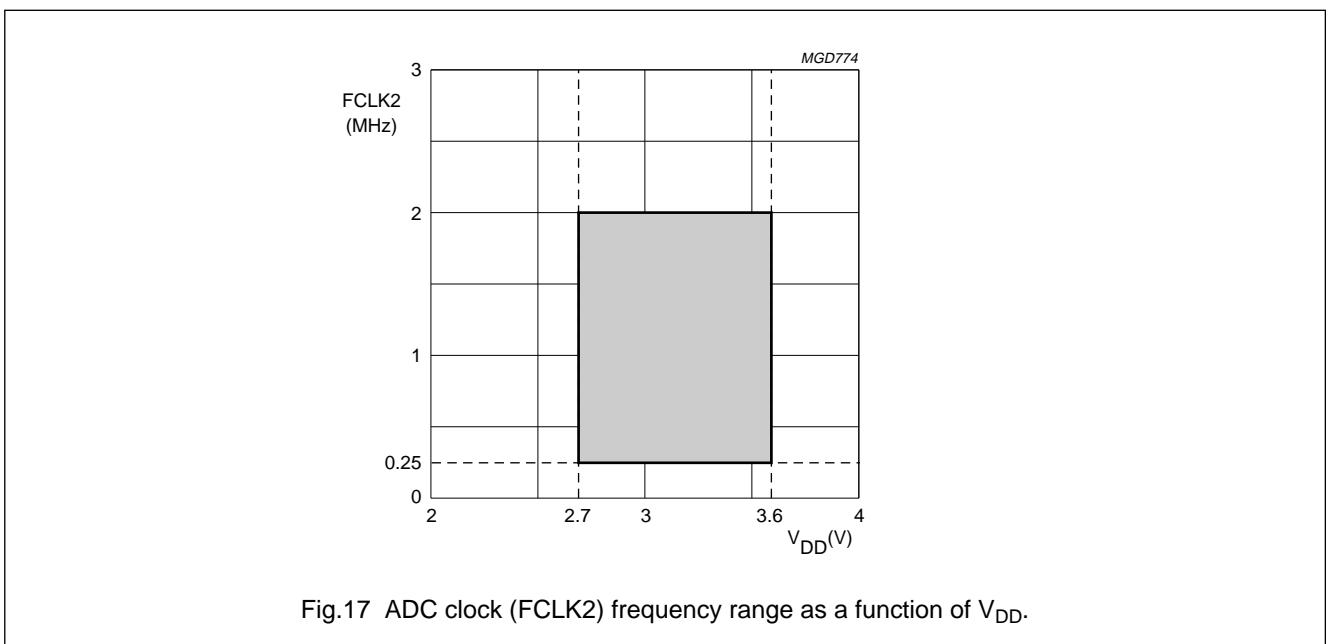

Fig.17 ADC clock (FCLK2) frequency range as a function of VDD.
- See Fig.17 for specific FCLK2 range as function of  $V_{DD}$ .